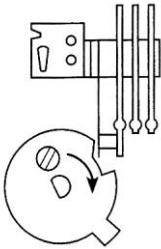

Figure 12-14 Mechanical sequencer switch for question 2.
- 2-1. With the mechanical sequencer switch shown in Figure 12-14, contacts interact with the cam so that, for different degrees of rotation of the cam, different contacts (a) _____ and (b) _____. 2-1a. _____